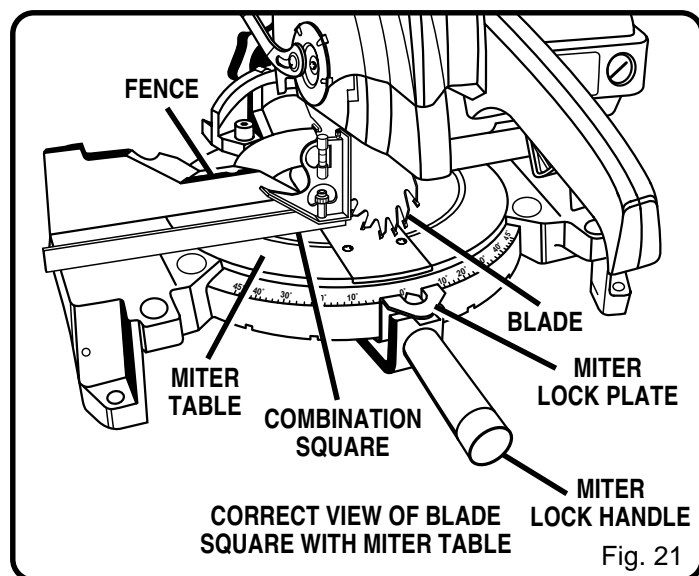

Fig. 21
See Figures 21 -24.
- The edge of the square and the saw blade should be parallel as shown in figure 21.